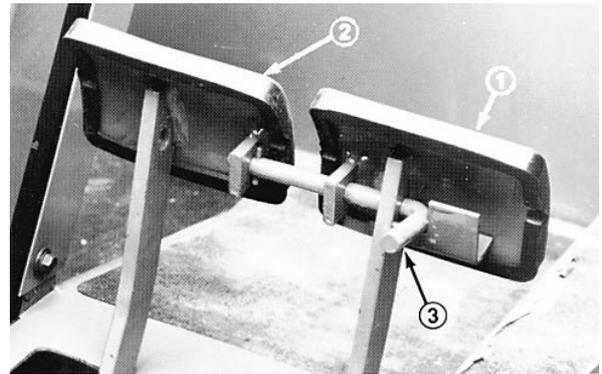

Figure 8
**Parking Brake**—Whenever the engine is shut off, the parking brake must be engaged to prevent accidental movement. To engage the parking brake, push lock arm (Fig. 8) on left brake pedal so that it locks together with the right pedal. Next, push down fully on both pedals and pull the parking brake knob out (Fig. 8) then release the pedals. To release the parking brake, depress both pedals until the parking brake knob retracts. Before starting the engine, however, the lock arm may be disengaged from the left brake pedal so both pedals work independently with each front wheel.